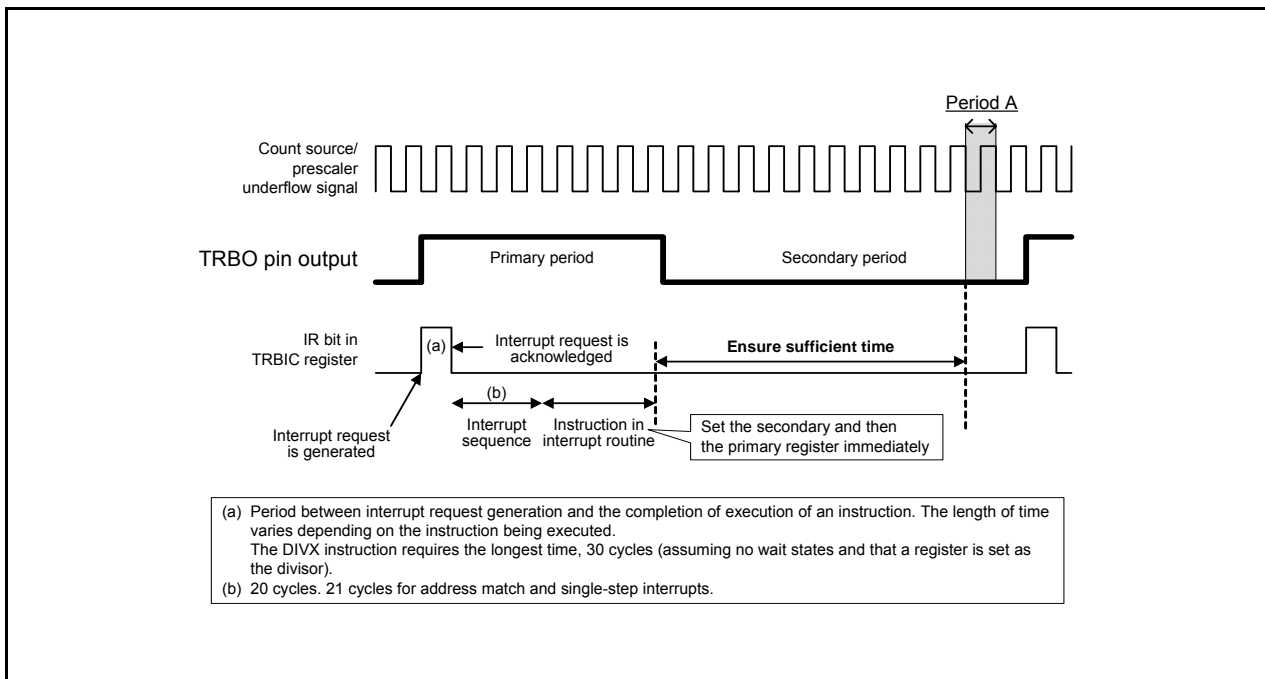

Figure 17.24 Workaround Example (a) When Timer RB interrupt is Used
- (1) To write to registers TRBPRE and TRBPR during count operation (TCSTF bit is set to 1), note the following points:
- (2) To change registers TRBPRE and TRBPR during count operation (TCSTF bit is set to 1), synchronize the TRBO output cycle using a timer RB interrupt, etc. This operation should be performed only once in the same output cycle. Also, make sure that writing to the TRBPR register does not occur during period A shown in Figures 17.24 and 17.25.
As shown in Figure 17.24, write to registers TRBSC and TRBPR in the timer RB interrupt routine. These write operations must be completed by the beginning of period A.